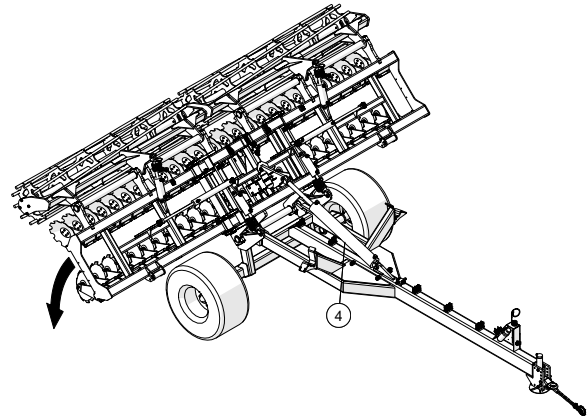

Figure 8. Lowering Machine
5. With wings fully opened and wing cylinders in float, extend transport cylinders (**#4**) to lower machine fully to the ground. When machine is completely to the ground place transport cylinders (**#4**) into float position. See **Figure 8**.